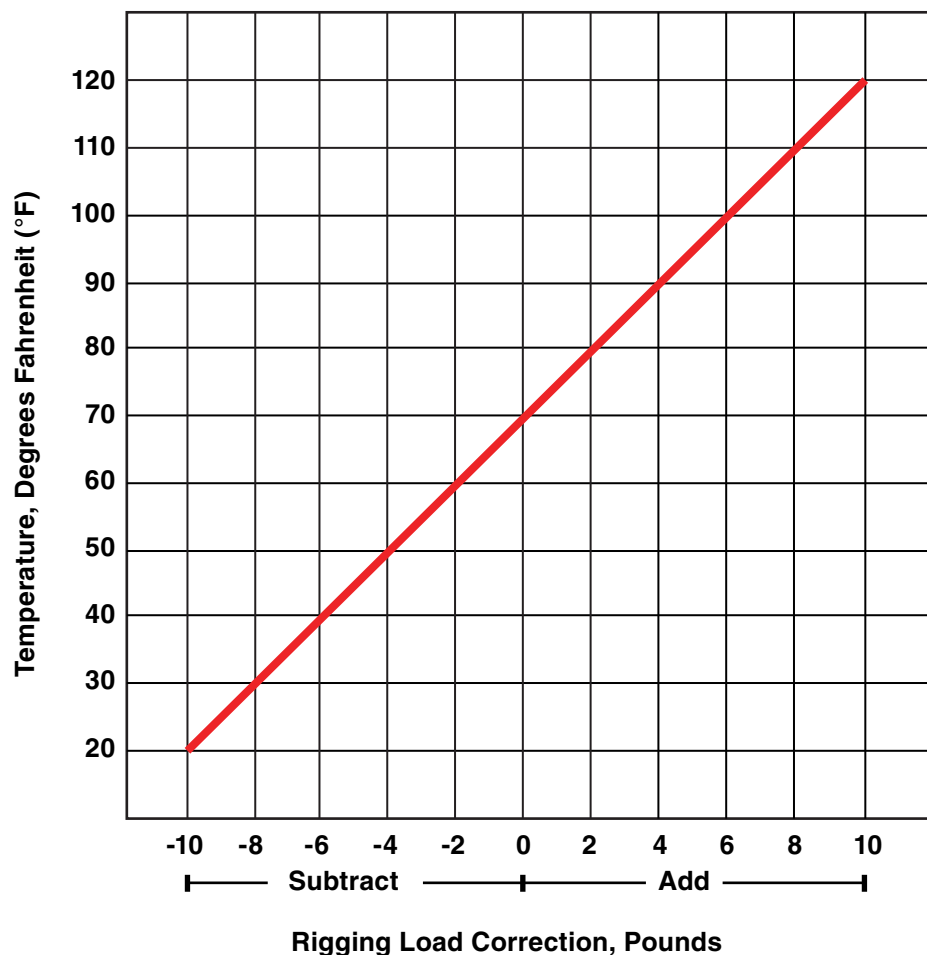

Figure 1
- Flight control cable rigging tensions specified in the applicable Piper Service Manual (SM), Section V; or applicable Piper Airplane Maintenance Manual (AMM), Chapter 27; must be corrected to account for ambient temperature, in airplanes with an aluminum fuselage or wing structure. Use the "Cable Tension vs. Ambient Temperature" chart provided in the applicable SM or AMM, or Figure 1, if the chart is not available in the manual.